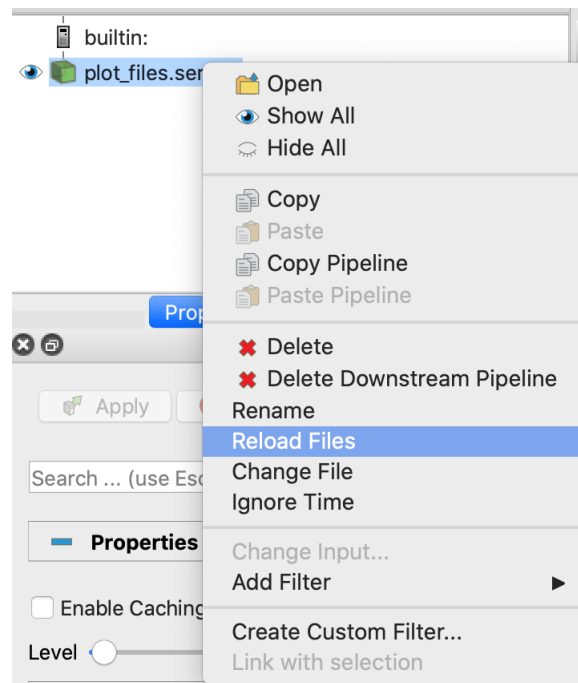
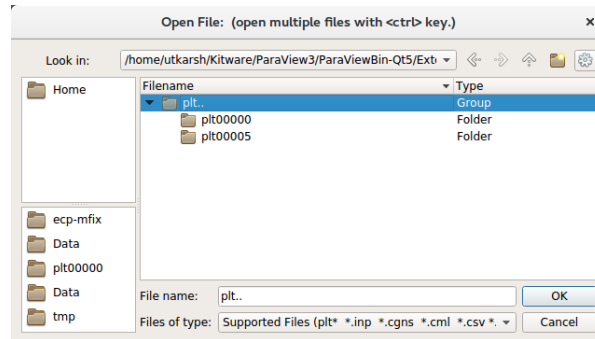

Fig. 18.2: : File dialog in ParaView showing how to reload a series file
Fig. 18.3: : File dialog in ParaView showing a group of plotfile directories selected
2. Navigate to your run directory, and select the fluid or particle plotfile. Note that you can either open single/multiple plotfile(s) at once by selecting them one by one or select an ensemble of file, labelled as `plt..` and indicated as a Group in the “Type” column of the file explorer (see Fig. 18.3). In the later case, Paraview will load the plotfiles as a time series. ParaView will ask you about the file type – choose “AMReX/BoxLib Grid
Open ParaView, and then select “File” → “Open”. In the “Files of Type” dropdown menu (see Fig. 18.3) choose the option All Files (*). Then choose `plot_files.series` and click “OK”. Now the plotfiles have been loaded as a Group as in Step 2 of section ParaView. Now, you can follow the steps 2 to 7 in the section ParaView to plot. As new plotfiles are generated, just re-run the bash script to re-generate the `plot_files.series` file, right-click on `plot_files.series` in the ParaView menu, and click on “Reload Files” (see Fig. 18.2).
1. Run ParaView v5.7, and select then “File” → “Open”. You will see a combined “plt..” group. Click on “+” to expand the group, if you want inspect the files in the group. You can select an individual plotfile directory or select a group of directories to read them a time series, as shown in Fig. 18.3, and click OK. ParaView will ask you about the file type – choose “AMReX/BoxLib Particles Reader”.